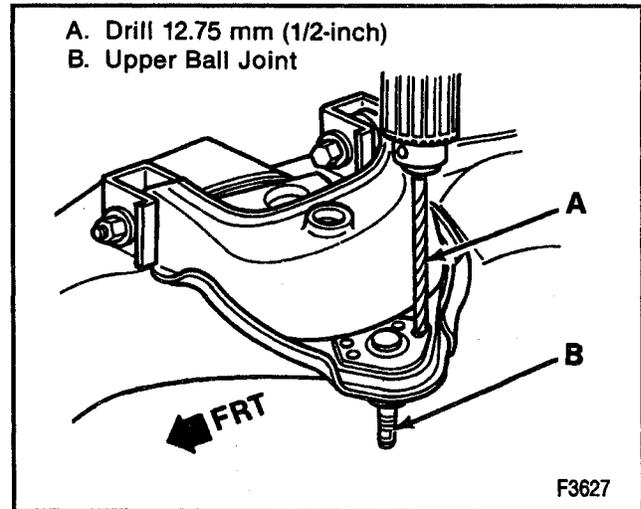

Figure 18—Drilling the Upper Ball Joint Rivet Heads
B. Drill the rivet heads away using a 12.75 mm (1/2 inch) drill (Figure 18).